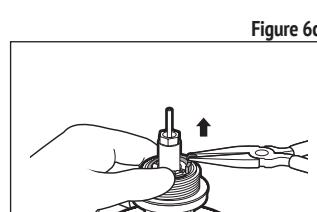

Figure 6c
4. Next, place your thumb on one side of the retainer clip and with a pair of pliers grip the other side of the retainer clip and pull outwards, away from your thumb, and upwards, removing it from the base of the 3/4 in. threaded adapter then, remove the adapter (see Fig. 6c).